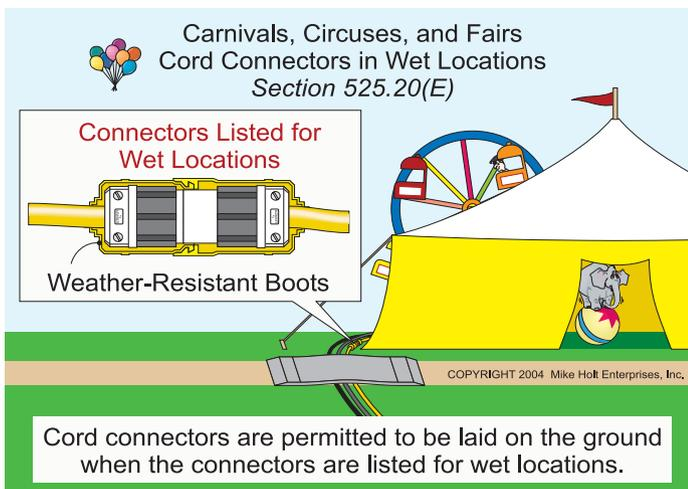

Figure 400-1
**AUTHOR'S COMMENT:** Other *NEC* Articles might have specific requirements. **Figure 400-1**